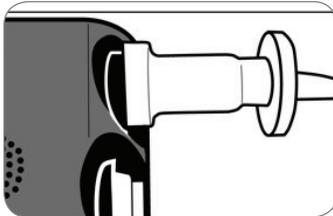

Figure 53: Replace driveline cover
- 9) Slide the white driveline cover up to cover new controller's silver connector (Figure 53).